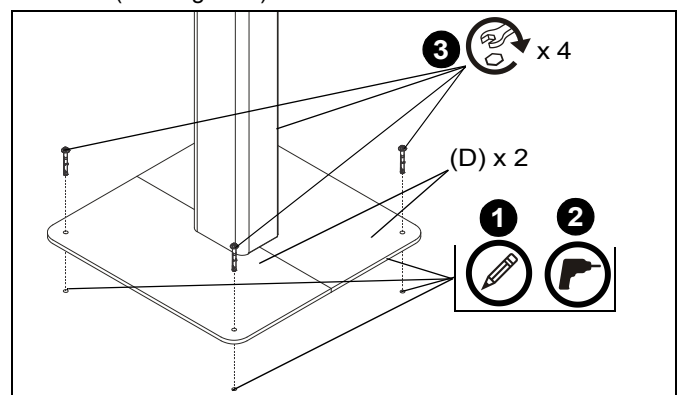

Figure 6
1. Use base plates (D) as a template to mark holes on floor at desired mounting location.
2. Drill holes at marked locations according to instructions of hardware being used for installation. (See Figure 6)
3. Use hardware (not included) to secure base plates (D) to floor. (See Figure 6)